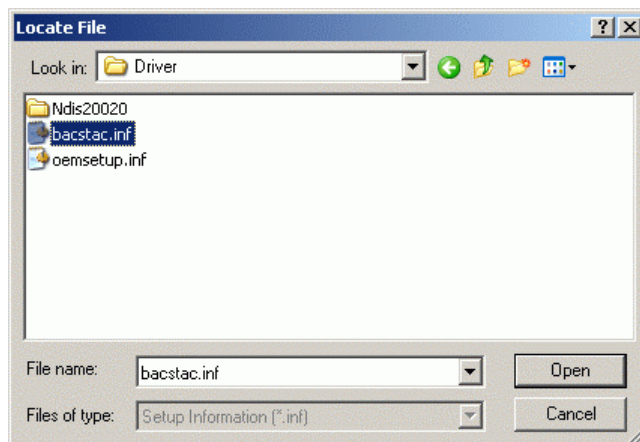

Fig. 2-12: Open installation file
5. Open the file "bacstac.inf" in the directory "Driver" of the installation directory (see Fig. 2-12).